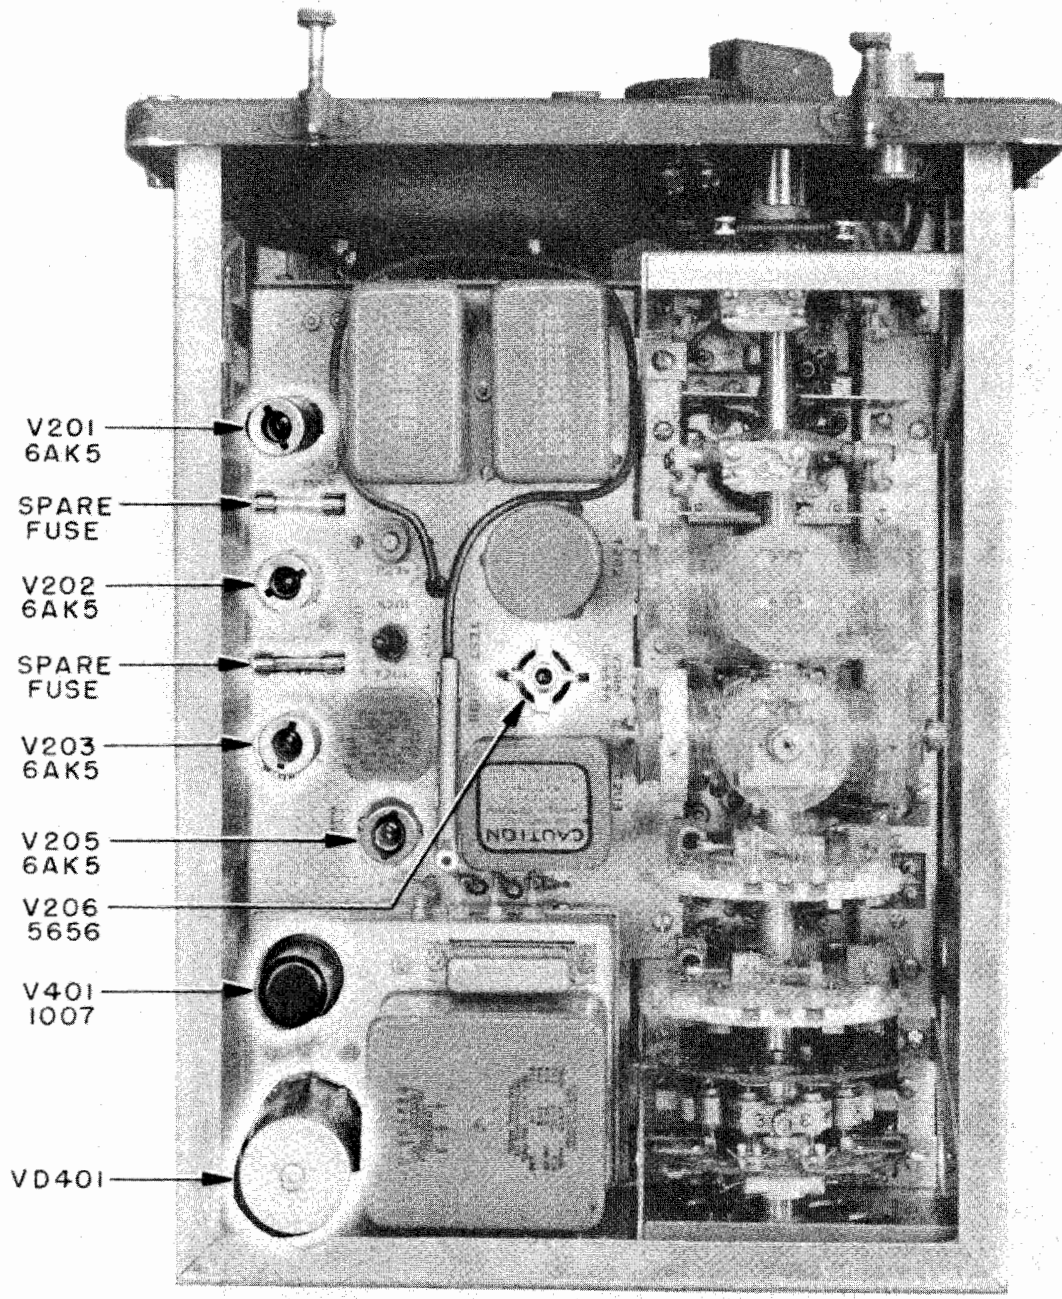
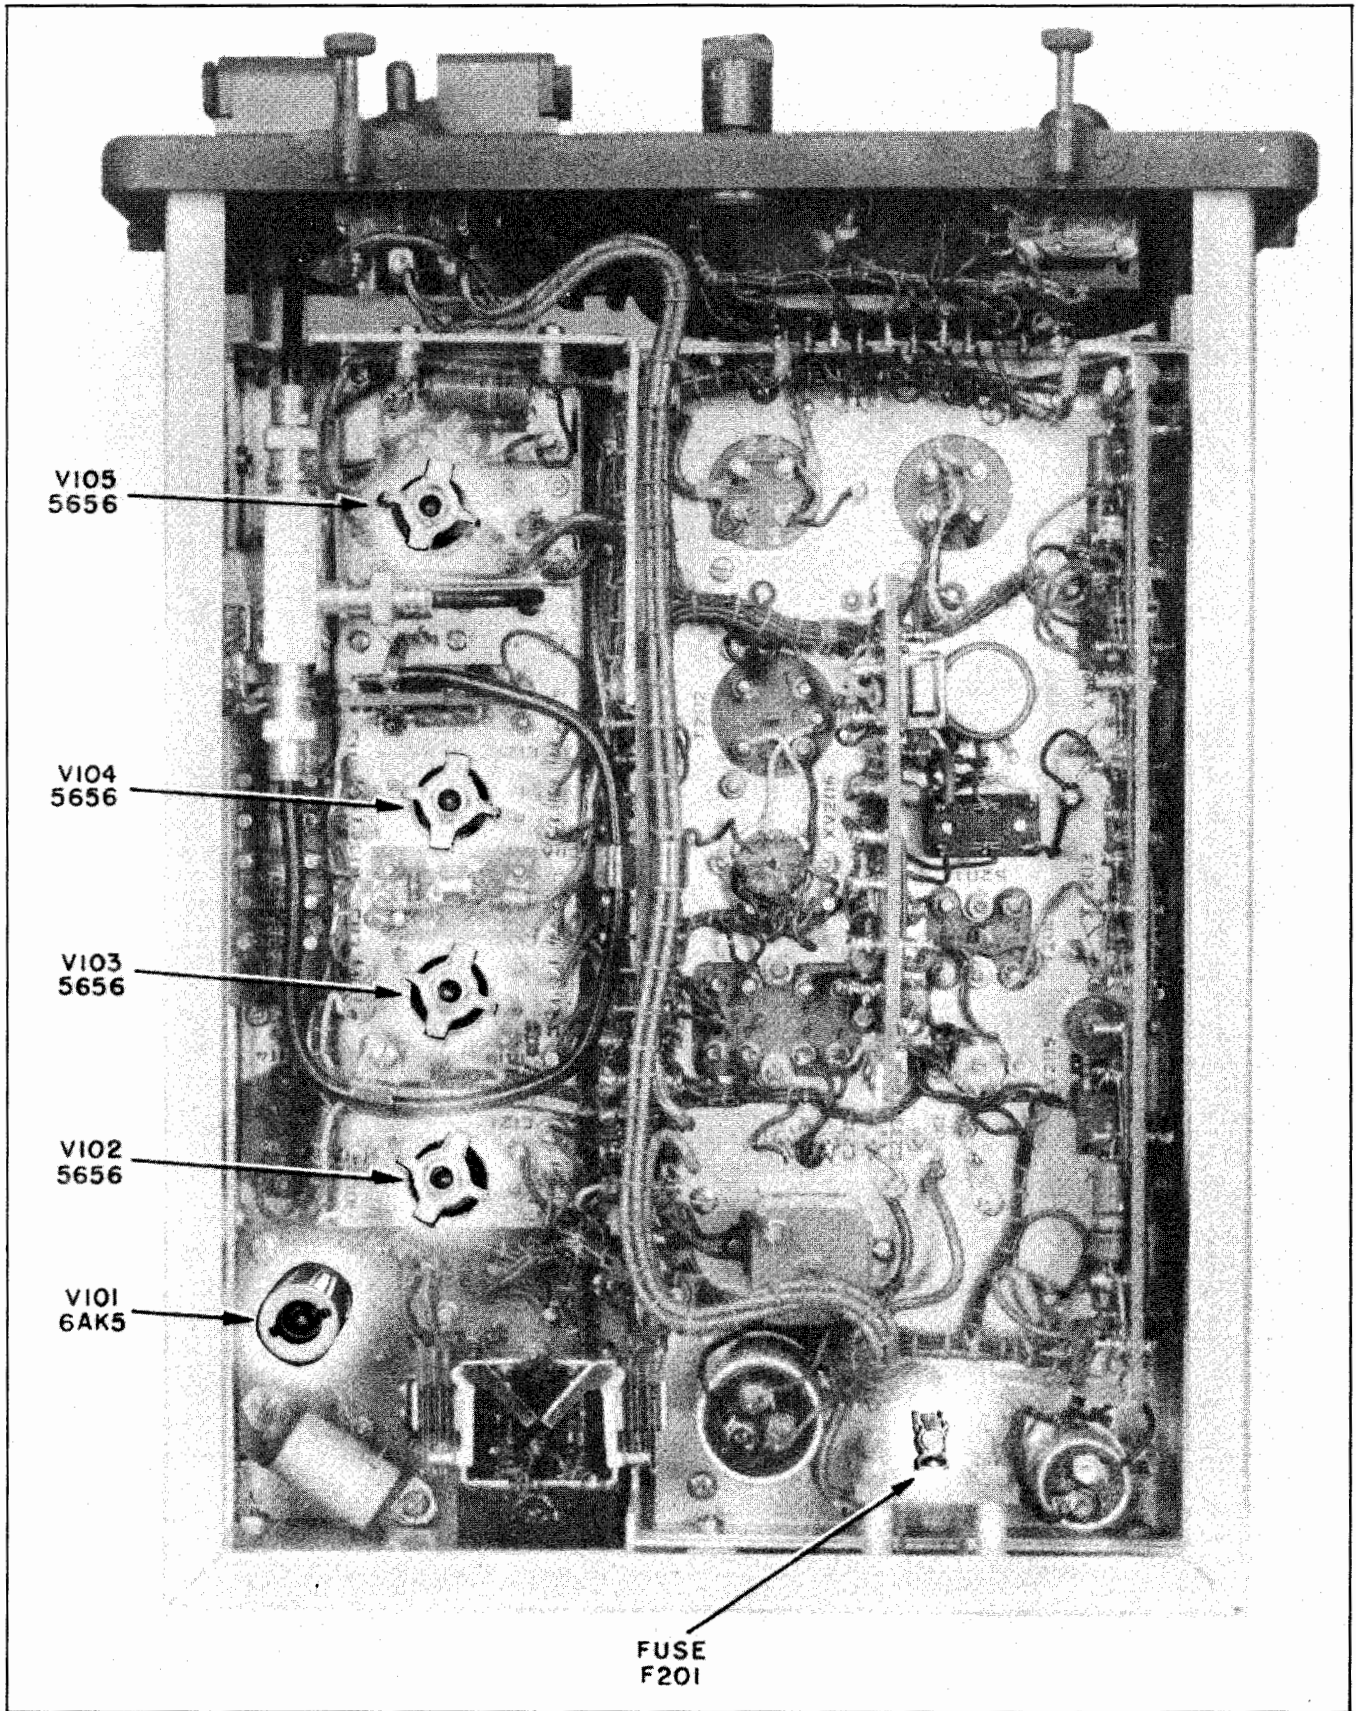

Figure 5-4.—Field Replaceable Tubes, Vibrator, and Spare Fuses.
Figure 5-5.—Additional Field Replaceable Tubes and Equipment Fuse.
A defective Microphone (Navy Type 51066) may be quickly replaced in the face harness by spreading the metal bracket (item 6, figure 5-4) slightly with the fingers, lifting the microphone out, and carefully inserting another.
There is only one fuse (F201) in the MAY Equipment. This fuse is located as shown in figure 5-5 and may be removed by pulling straight out. Two spare fuses are mounted on the Transmitter-Receiver chassis as shown in figure 5-4; either one may be used as a replacement.
The Transmitter-Receiver vibrator (figure 5-4) may be easily removed by pulling straight out. A replacement vibrator is carried in the Auxiliary Battery Pack.
All field-replaceable tubes may be removed from their sockets by a straight, even pull, taking care not to bend the tube pins or strike the tube against some other component when withdrawing. Some miniature tubes are protected by shields which push down and turn to release; others (such as V102-V105) employ spring clamps which must be lifted from the top of the tube and swung aside. Refer to figures 5-4 and 5-5 for tube locations.
For location of electron tubes, fuse, and vibrator see figures 5-4 and 5-5